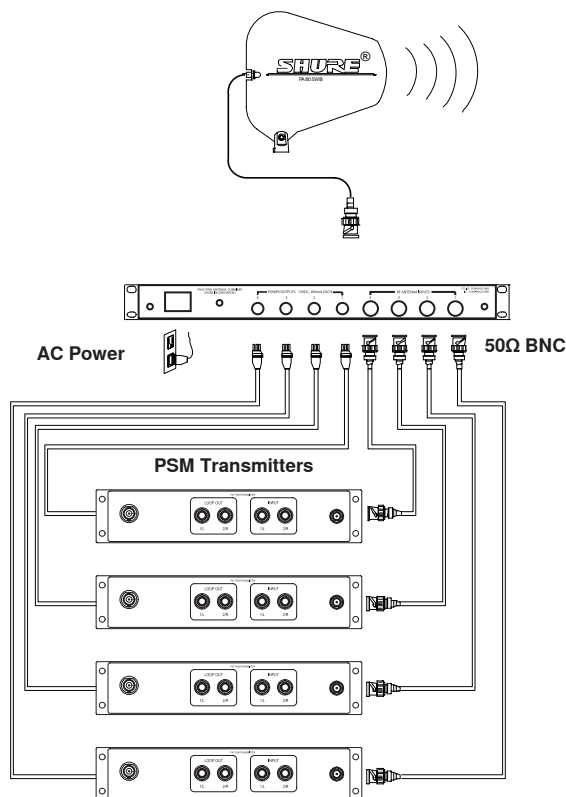

Figure 2
- Using the supplied BNC-BNC cables, connect the Antenna Output of each transmitter to the Antenna Inputs of the PA421SWB (See Figure 2).
- Attach an antenna to the MAIN Out of PA421SWB. For wideband applications, use PA805SWB directional antenna (Figure 2).
- If you have a Shure PSM system that has the same power input connectors as the PA421SWB power outputs, such as the PSM400, connect the PSM system to the PA421SWB via the supplied power cables (see figure 2). This replaces the need for an external power supply.
NOTE: When the PA421SWB is powered on, the input signal indicators (1-4) on the front panel will illuminate if an active transmitter is connected to the corresponding input (1-4) on the back panel (Figure 2).